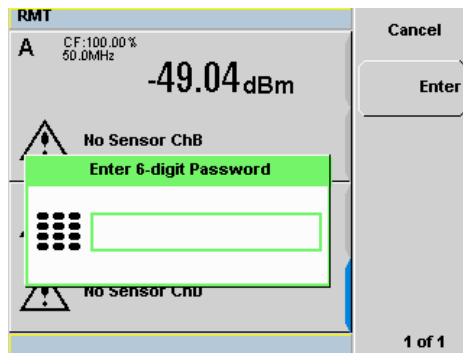
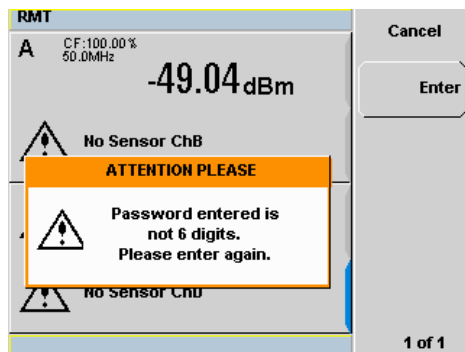

Figure 3-47 Enter 6-digit Password pop-up
Figure 3-49 Warning message
- 3 Press **Secure Blank**. The Enter 6-digit Password pop-up is displayed. You are to enter a 6-digit password upon activating the secure blank feature (see Figure 3-47).
- 5 A warning message pop-up will be displayed if the entered password is not 6-digits (see Figure 3-49). This warning will appear for two seconds before the Enter 6-digit Password pop-up (Figure 3-47) is displayed again.